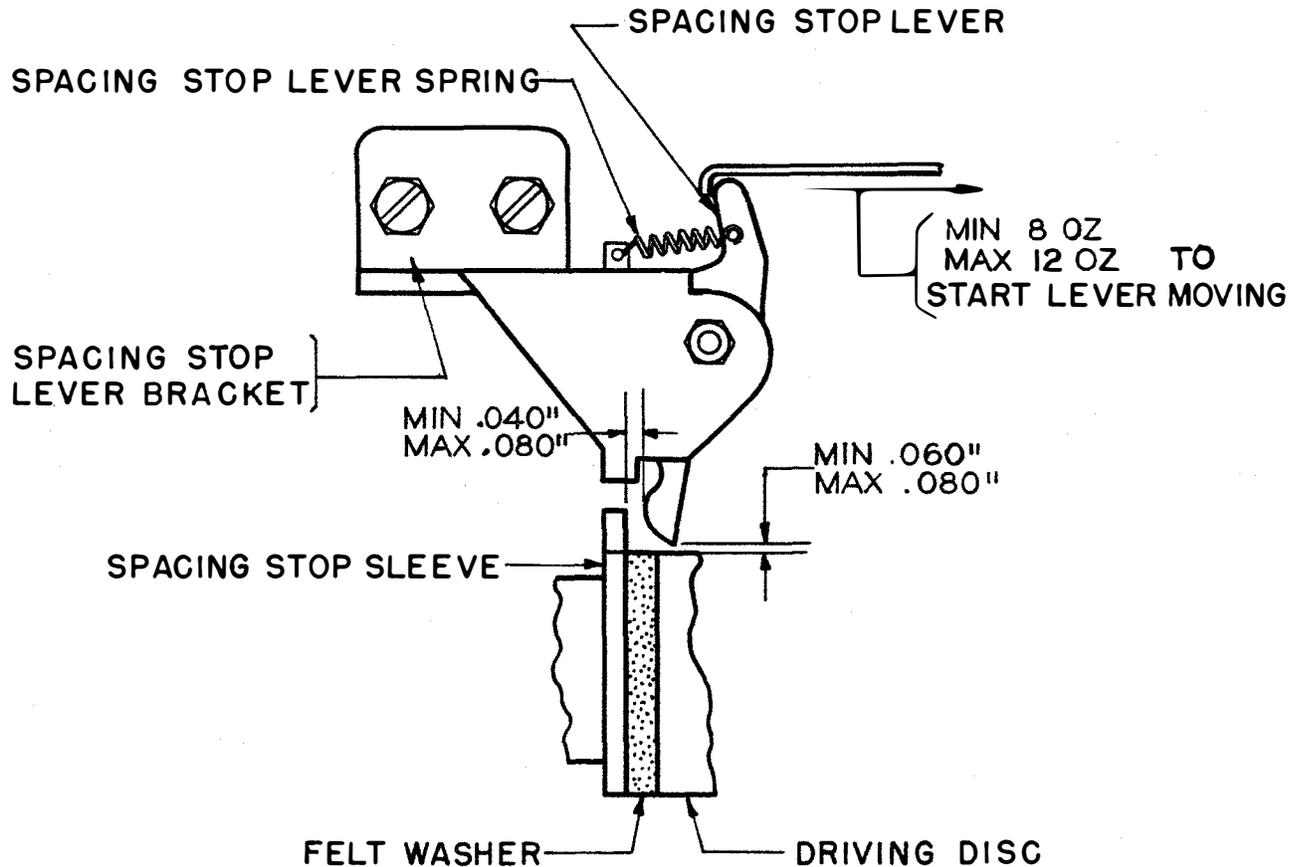

Figure 48
held against its stop and the tooth is opposite the lever. See Figure 48.
2.111 Spacing-stop-lever Spring should have a tension of minimum 8 ounces, maximum 12 ounces. See Figure 48.